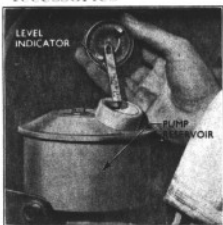

Fig. 30.
1. Check the oil level in the reservoir mounted on top of the pump. A dipstick is attached to the filler cap, as shown in Fig. 30. Check the level when the tractor wheels are in the straight-ahead position and, if required, add sufficient good quality S.A.E. 10W oil to bring the level up to the "full" mark on the dipstick. Use S.A.E. 5W oil where temperatures are consistently below 10°F. (—12°C.). Oils such as brake fluid or shock absorber fluid must not be used.